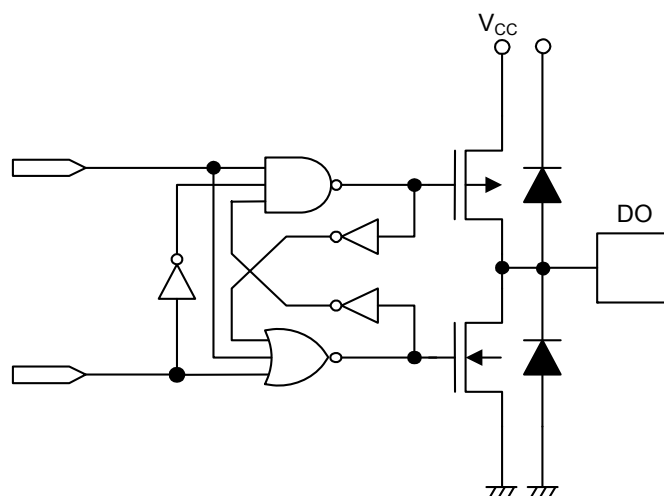

Figure 26 DO Pin
**Figure 26** shows the equivalent circuit of the output pin. This pin has the tri-state output of "H" / "L" / "High-Z".